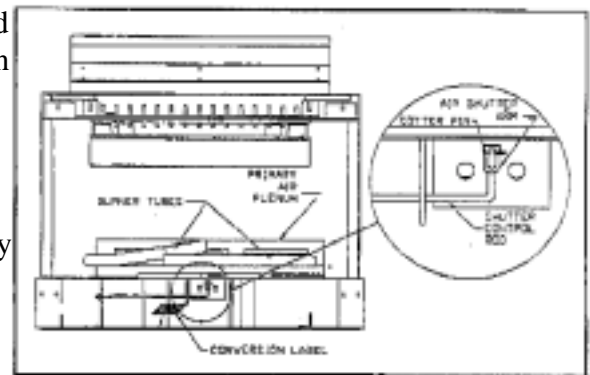

Figure 2
7) Locate and remove the cotter pin in the air shutter assembly, located in the shutter control rod, in the front underside of the unit, as shown in Figures 2 and 3. Note its position for reassembly.
11) Replace the cotter pin in the air shutter assembly and reposition as previously noted and shown in Figures 2 and 3.
12) Replace the primary air plenum and reposition as previously noted and shown in Figures 2, 3, and 4.
13) Replace the burner tubes and reposition as previously noted and shown in Figures 2, 3, and 4. Be sure to properly tighten the burner tube clips.
20) The conversion kit comes with a conversion label, which must be filled out completely and mounted, on the unit in a visible location. The sticker should be mounted on the base of the unit just inside the left door, as shown in Figure 2.